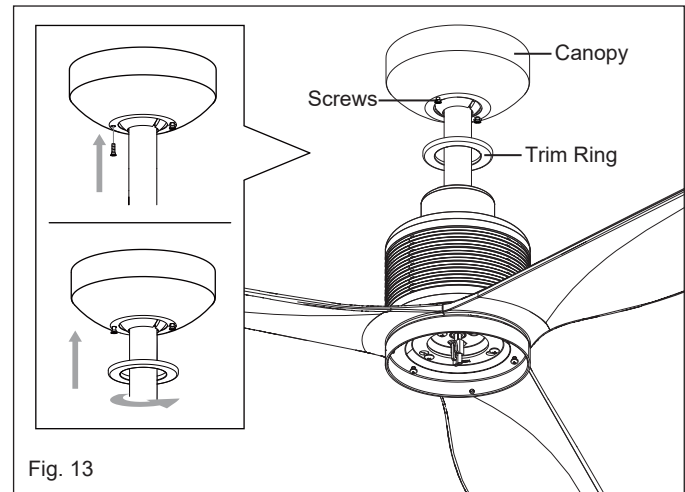

Fig. 13
- 3 Slide the canopy up to the hanger bracket and place the key hole on screw on the mounting bracket, turn canopy until it locks in place at the narrow section of the key holes. Align the circular hole on the canopy with the remaining hole on the mounting bracket, secure by tightening the two set screws. Align the inner larger end of the key hole of the trim ring to the canopy screw and slide counterclockwise to tighten the trim ring. (Fig. 13)